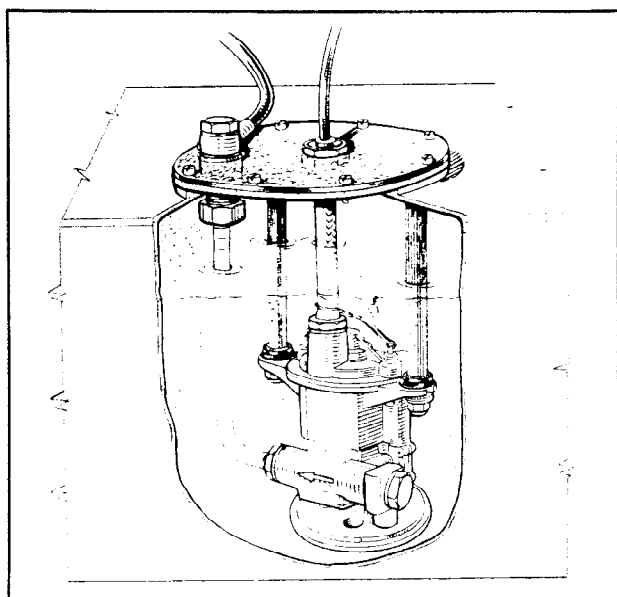

Fig. 1
The prevention of vapour locking troubles in automobile fuel systems is a problem which has become prominent with the advent in recent years of higher volatility fuels, coupled with the growing use of motor vehicles in all parts of the world. Vapour locking is particularly troublesome on the suction side of a fuel system. It follows, therefore, that a most effective counter-measure is to locate a pump below the surface level of the fuel as shown in Fig. 1. When located thus, no vacuum can occur on the intake side of the pump which, being gravity fed with liquid fuel, can maintain its rated pressure on the delivery side. This is the working principle of the Lucas Electric Fuel Pump, Model 2FP.
- (ii) A typical method of internal tank mounting utilising two threaded rods is shown in Fig. 1. Alternatively, brackets of suitably stiff sheet or strip metal are used. The upper end of the mounting is secured to the underside of a gasket-sealed screw-secured cover plate.